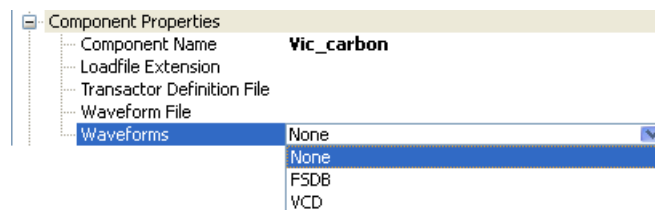

Figure 4-6 Waveform Type
3. Click the drop-down menu from the *Waveforms* field and select the waveform file format you want to use, as shown in Figure 4-6.